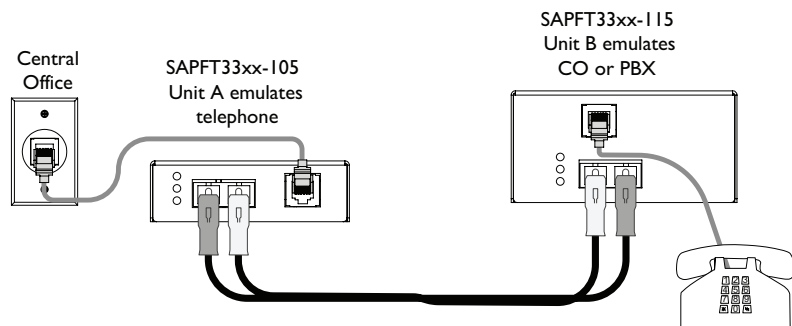

Figure 1: Standard Configuration
One Unit A (*SAPTF33xx-105*) module and one Unit B (*SAPTF33xx-115*) module are required for the standard configuration. The Unit A module is connected to the Central Office (CO) or PBX while the Unit B module is connected to a telephone terminal equipment. See Figure 1.